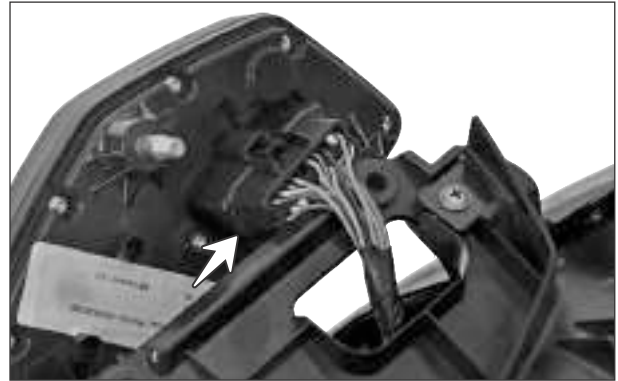

Fig. 5.57
- ▮ Disconnect coupler from the speedometer assembly by gently pressing the lock and take out the digital speedometer. (Fig. 5.57)